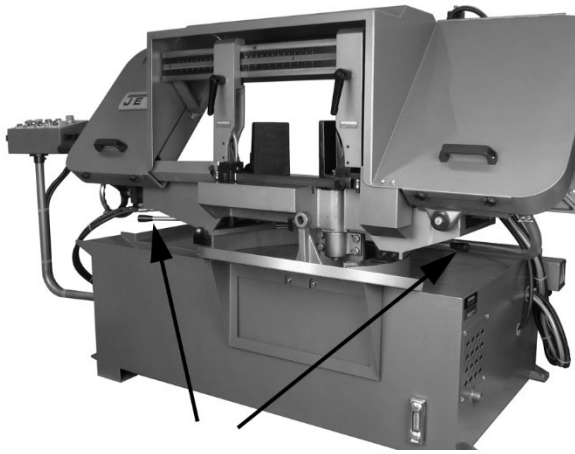

Figure 8-13
5. Start saw blade, and slowly turn single hex adjustment screw (H₃, Figure 8-13) to tilt idler wheel. Turn screw *outward* so that blade starts to move away from wheel shoulder; then immediately turn screw *inward* so that blade stops, then moves slowly back toward shoulder.
1. Pull both locking handles (Figure 8-13) toward front of machine.